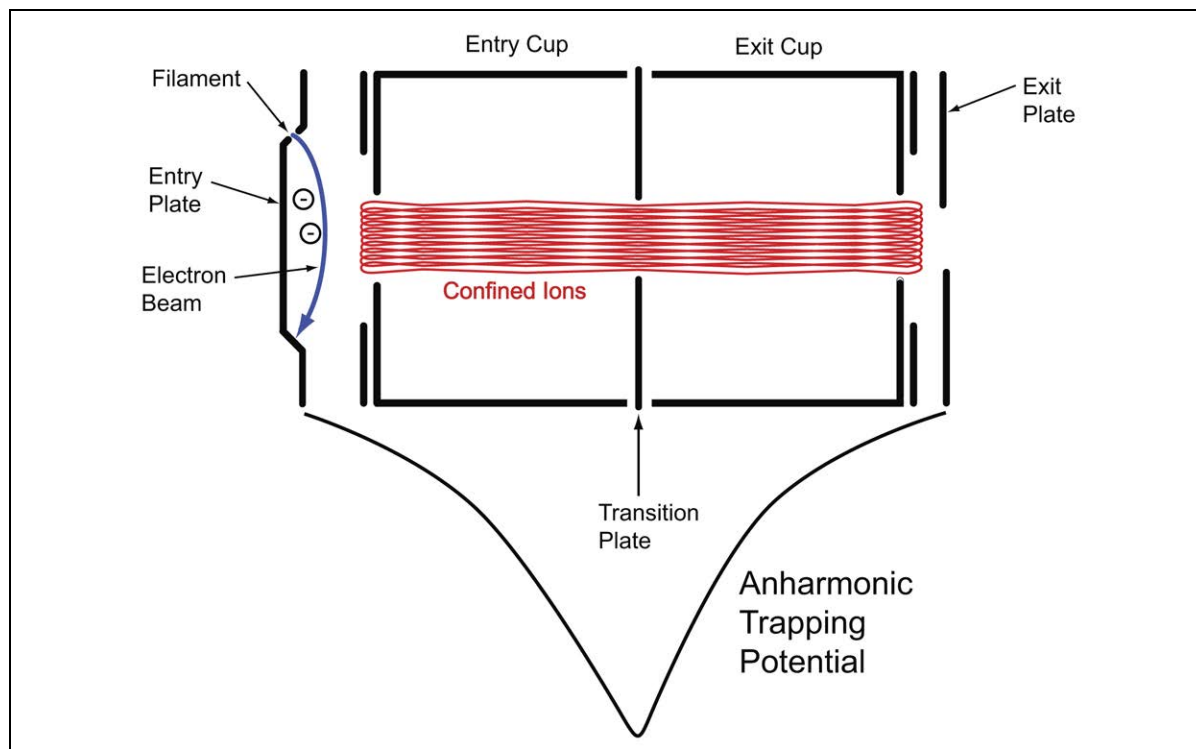

Figure 6-9 Cross Section of MS Gauge and Electrostatic Trapping Potential Well
Figure 6-9 illustrates a cross section of the ion trap electrode assembly. The blue arrow depicts the path of the electron beam, and represents how ions are created between the entry plate and entry cup, directly inside the trap volume. During operation, the filament is always powered, providing continuous ionization. Notice that the electrons are thermionically generated outside the ion trap (hot filament source), but directed into the ion trap volume through an off-axis aperture located on the entry plate.
Figure 6-9 also illustrates a potential curve depicting the negative high voltage (-HV) trapping potential well that develops along the cylindrical axis of the trap. The purely electrostatic ion trap confines the ions of different mass-to-charge (M/q) ratios and kinetic energies within an anharmonic potential well. Ions of all masses and a wide range of initial energies oscillate along the cylindrical axis of the trap, confined by the electrostatic potential well. The red trace depicts the oscillatory path for a single ion (modeled by SIMION™) and demonstrates that radial focusing of the ion motion along with uniaxial oscillation are responsible for providing stable oscillatory trajectories (i.e. ion confinement). The natural oscillation frequency (NOF) of an ion in such a potential well depends on the amplitude of oscillation and results in anharmonic oscillatory motion. This means that the NOF of a specific ion trapped in such potential well is determined by four factors: (1) the details of the trap geometry (i.e., mechanical design), (2) the ion's mass-to-charge ratio (M/q), (3) the ion's instantaneous amplitude of oscillation (related to its initial energy), and (4) the depth of the
5. For a typical electrostatic ion trap with a negative nonlinear potential (such as depicted in Figure 6-9), the oscillatory amplitudes become larger and the ions oscillate closer to the end plates as energy is transferred from the RF field into the oscillatory system. Eventually, the oscillation amplitude of the ions exceeds the length of the ion trap and the ions leave the trap through the semi-transparent mesh of the exit plate. Setting the bias potential of the exit plate a few volts lower than the entry plate assures that all ions excited through autoresonance are ejected from the trap exclusively through the exit plate mesh (lower energy) instead of the entry plate (higher energy).
Positive ions are formed inside the ion trap volume in an ionization region located between the entry plate and the entry cup as illustrated in Figure 6-9. Electrons are thermionically generated outside the ion trap (hot filament source) and directed into the ion trap volume through an off-axis slit located on the entry plate. A fraction of the positive ions are confined inside the ion trap volume by the electrostatic potential well. The rest of the ions that are not confined by the electrostatic potential well and are mostly lost to neutralizing collisions with the pressure plate.